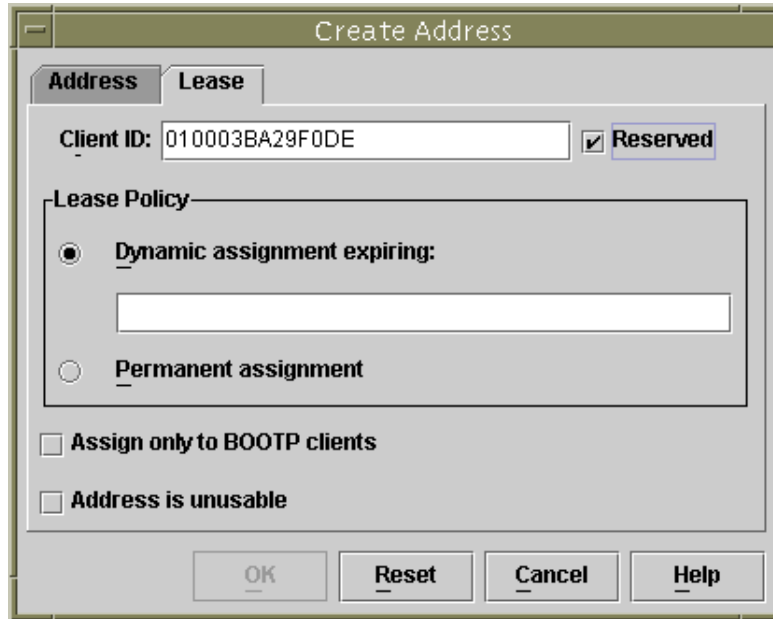

FIGURE 10-10 Associating the Blade's Client ID With the IP Address
d. In the Create Address window, click the Lease tab (see FIGURE 10-10).